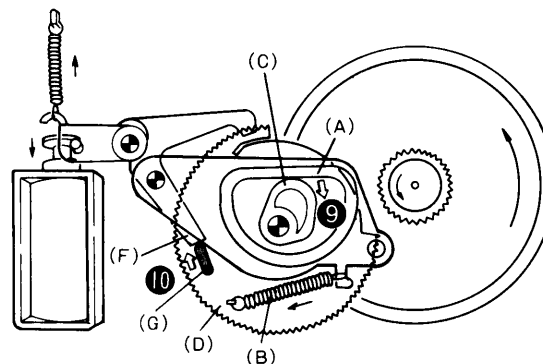
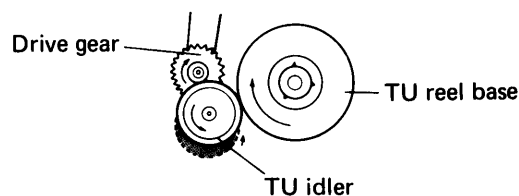

Fig. 4-10 STOP → PLAY operation 3
Fig. 4-11 Generation of take-up torque
(see Fig. 4-10)
As can be seen in Fig. 4-10, the head base drive pin of operating lever (A) rises during playback mode. This pin forces the head base up through the action of the HB drive spring. The pinch compressor spring is also lifted at the same time, forcing the pinch roller into close contact with the capstan. Furthermore, the brake plate is lifted to release the reel brake. Pressure is also applied to the idler arm, resulting in the TU idler transmitting drive gear rotation to the TU reel base (the drive gear being belt-driven by the capstan motor). (see Fig. 4-11).